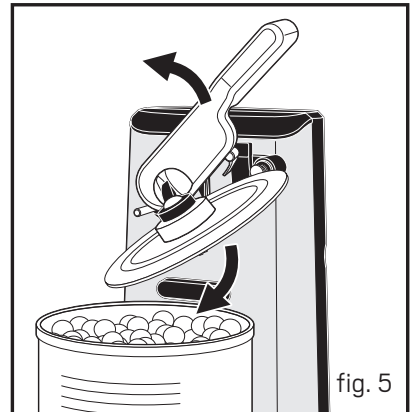

fig. 5
7. When the can is opened, the can opener will stop automatically. To remove the can, hold it with one hand and raise the lever with the other. See fig. 5.